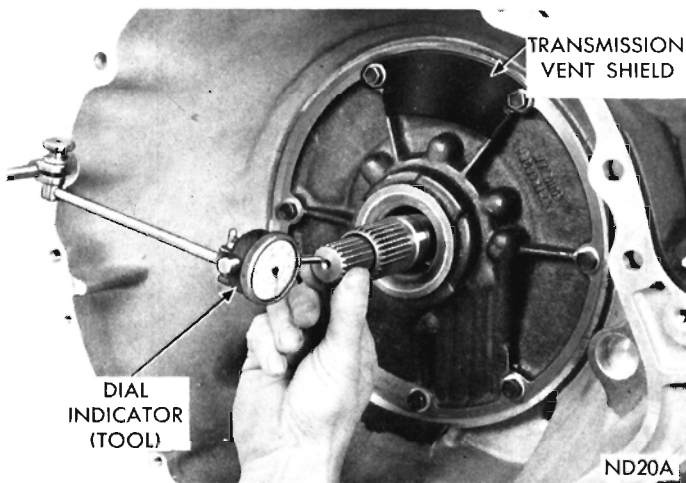

Fig. 43—Measuring Drive Train End Play
(1) Attach a dial indicator to transmission bell housing with its plunger seated against end of input shaft (Fig. 43). Move input shaft in and out to obtain end play reading. End play specifications are .030 to .089 inch for A-904 transmissions, and .037 to .084 inch for A-727 transmissions.
(2) Record indicator reading for reference when reassembling the transmission.